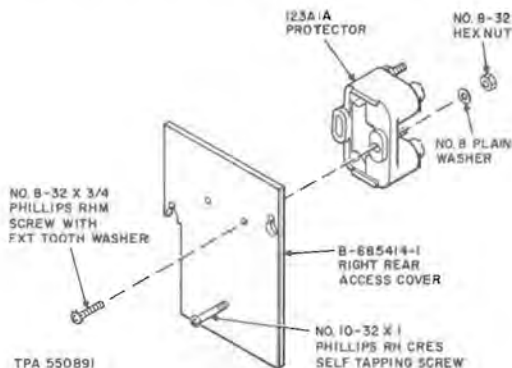

Fig. 23—Assembly of 123A1A Protector on Right Rear Access Cover
- 4.21** To replace old stationary access cover with new detachable access cover (Fig. 23), perform following operations.
- (e) Install protector on new access cover per Fig. 23 using hardware retained in (d).
- (f) Install a 10-32 by 1 Phillips RH CRES self tapping screw per Fig. 23. This screw serves as a handle.